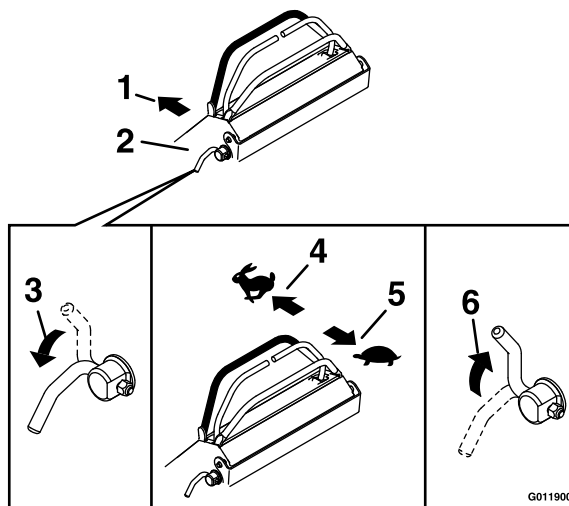

Figure 11
3. Unlock the handles on both sides of the control tower by pulling outward (see Figure 11).